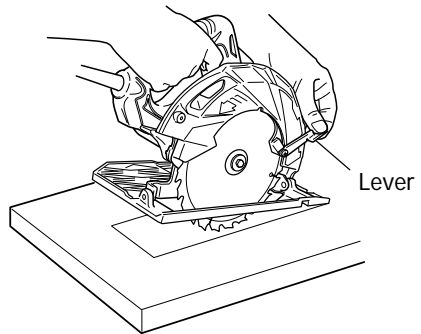

Fig. 14
1. Mark the desired cutting area clearly with lines all side. (See Fig. 14)
3. Push the lever all the way back so the blade is exposed as shown in Fig. 14.